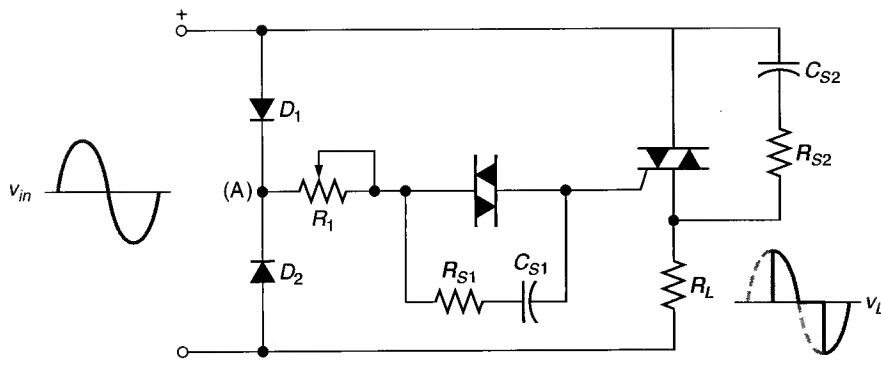

FIGURE 20.27 A triac phase controller.
A typical triac application can be seen in the *phase controller* in Figure 20.27. The primary difference between the triac phase controller and the SCR phase controller is the triac's ability to conduct during both alternations of the input signal.
With the input polarity indicated in Figure 20.27, D_1 is forward biased and D_2 is reverse biased. This puts a positive voltage at point A in the circuit. When V_A is high enough to overcome the V_{BR} rating of the diac and the V_{GT} rating of the triac, the triac is triggered into conduction, providing the positive output cycle shown. When the input polarity reverses, D_1 becomes reverse biased and D_2 becomes forward biased. In this case, point A is still positive, but MT2 is now negative. When the triac is trig-
gered, the current direction through the load is reversed and the negative output cycle is produced. Note that the triac in Figure 20.27 is quadrant I triggered during the positive alternation of the input and quadrant IV triggered during the negative alternation of the input. Also, note the presence of the diac and triac *snubber networks*. These are included because the diac and triac are subject to the same false triggering problems as the SCR.
12. Describe the operation of the triac phase controller in Figure 20.27.